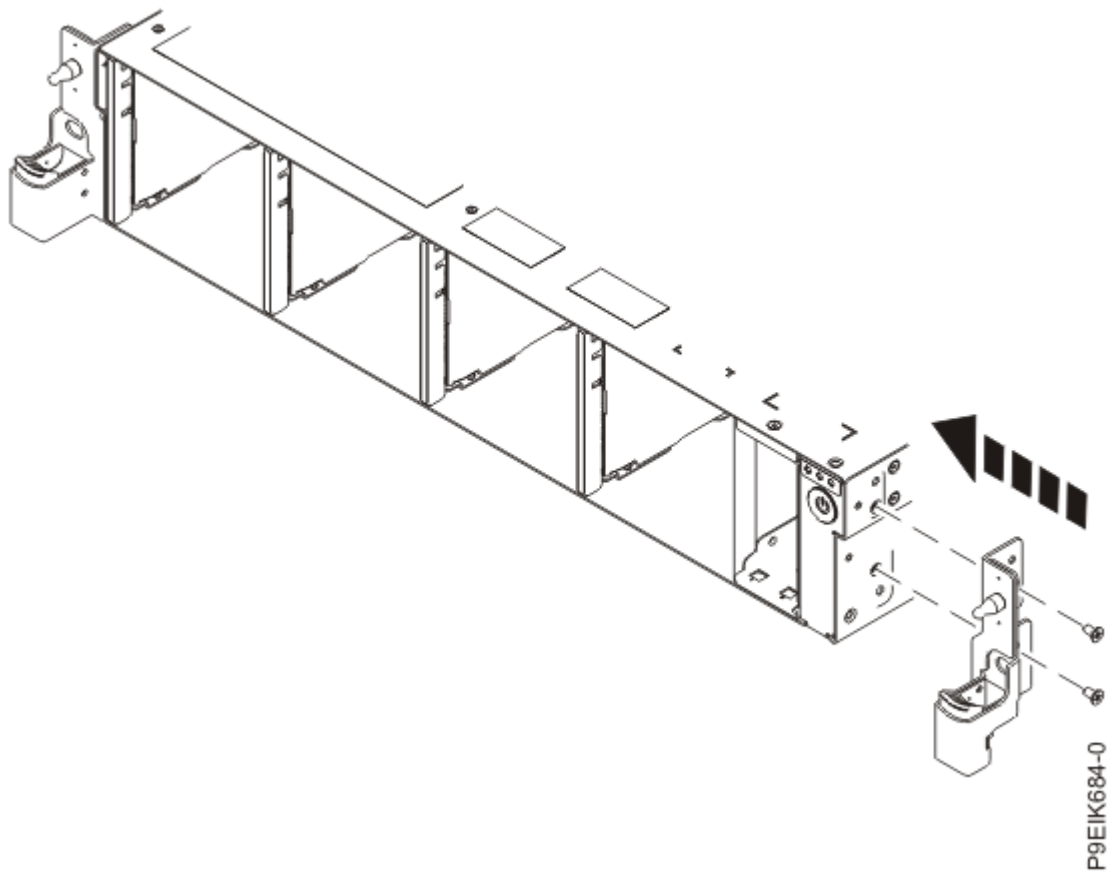

Figure 42. Replacing the rack installation support
6. Replace the rack installation support on the side of the system as shown in Figure 42 on page 56.